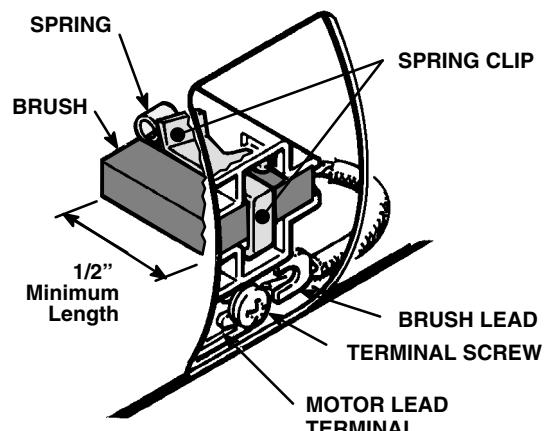

Fig 24
**NOTE:** Replace the brushes when worn to less than 1/2 in. See Fig 24. Check both brushes. Use Brush Repair Kit 220-853.
3. Loosen the brush lead terminal screw. Pull only the brush lead away. Remove the brush and spring. See Fig 24.